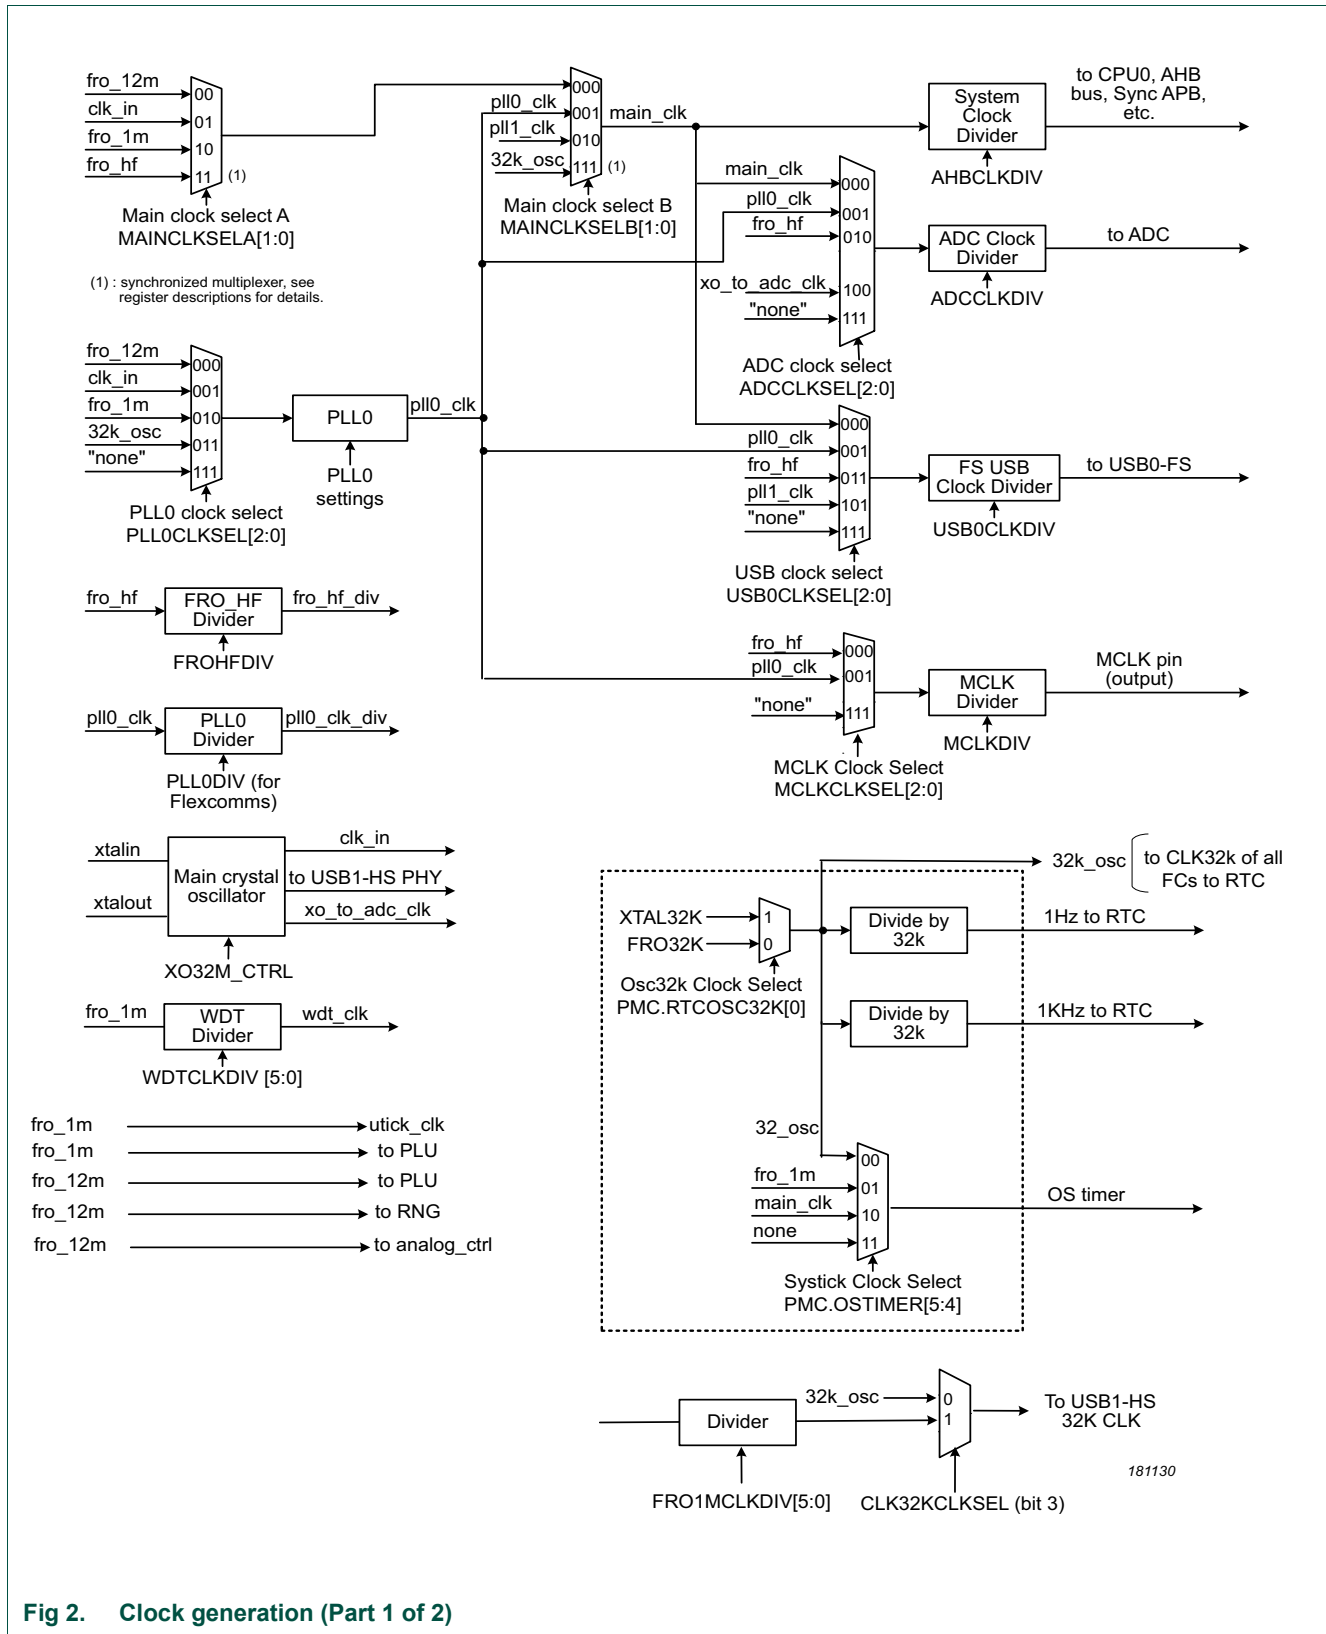

Fig 2. Clock generation (Part 1 of 2)
The system control block facilitates the clock generation. Many clocking variations are possible. Figure 2 gives an overview of potential clock options. Table 38 describes signals on the clocking diagram. The maximum clock frequency is 150 MHz.
**Remark:** The indicated clock multiplexers shown in Figure 2 are synchronized. In order to operate, the currently selected clock must be running, and the clock to be switched to must also be running so the multiplexer can gracefully switch between the two clocks without glitches. Other clock multiplexers are not synchronized. The output divider can be stopped and restarted gracefully during switching if a glitch-free output is needed.
**Remark:** The maximum allowed frequency for the main clock and system clock (to CPU0, AHB bus, Sync, etc.) is 150 MHz. See Figure 2 “Clock generation \(Part 1 of 2\)”. The `POWER_SetVoltageForFreq` API call must always be used when setting or switching the frequency. See Chapter 14 “LPC55S1x/LPC551x Power Profiles/Power Control API”.
frg_clk	The output of each Fractional Rate Generator to Flexcomm clock. Each FRG and its source selection is shown in <a href="#">Figure 2</a> .
main_clk	The main clock used by the CPU and AHB bus, and potentially many others. The main clock and its source selection are shown in <a href="#">Figure 2</a> .
pll0_clk	The output of the PLL0. The PLL0 and its source selection is shown in <a href="#">Figure 2</a> .
pll1_clk	The output of the PLL1. The PLL1 and its source selection is shown in <a href="#">Figure 2</a> .